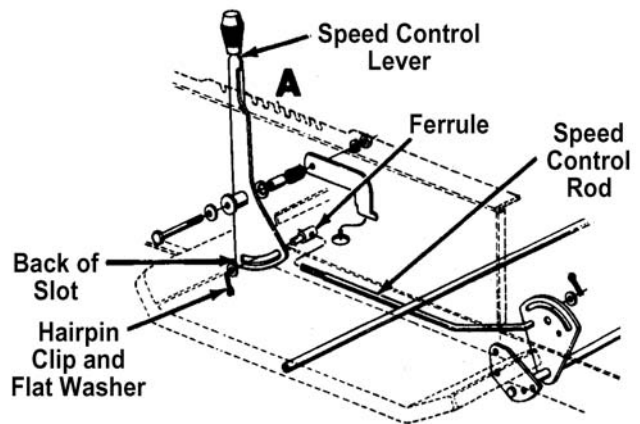

Figure 7-41. Speed Control
1. Adjust the speed control lever by pushing the clutch-brake pedal forward until the stop on the brake rod is against the frame. Have another person hold the pedal in this position as you make the following adjustment. Place the speed control lever in parking brake position. Remove the hair-pin clip and flat washer, and adjust the ferrule on the rod so it is against the back end of the slot. Then lengthen rod one more turn. Reassemble and secure with the flat washer and hairpin clip. See Figure 7-41.